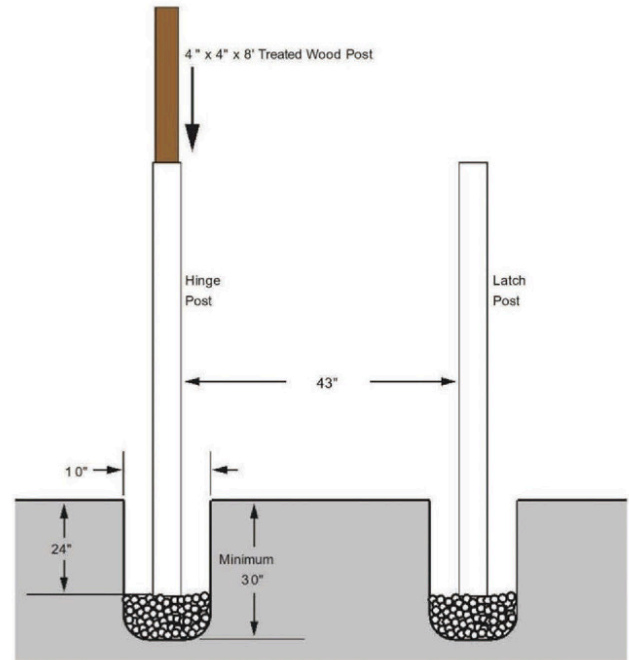

Fig 2. Setting Posts
2. The gate can be set up for Right or Left swing. The post that will be used as your Hinge Side **MUST HAVE A 4" x 4" TREATED WOOD POST** for greater strength. (See Fig 2.)